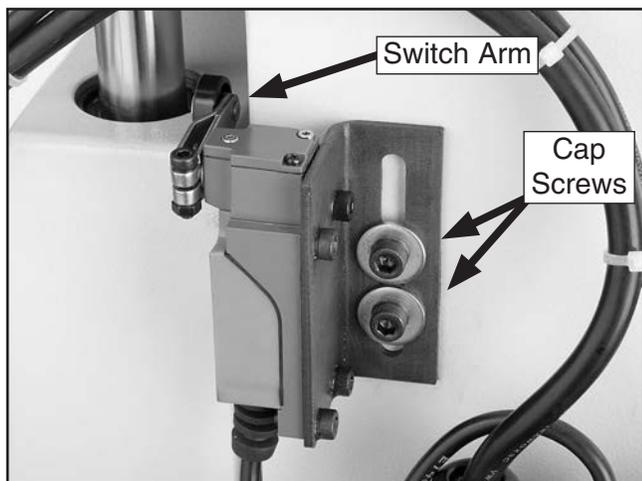

Figure 35. Headstock limit switch.
2. Use a 5mm hex wrench to loosen the cap screws securing the limit switch (see **Figure 35**).